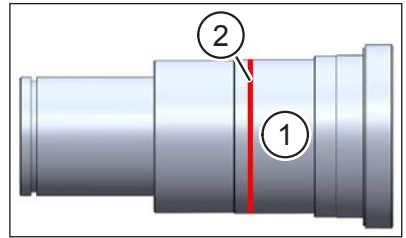
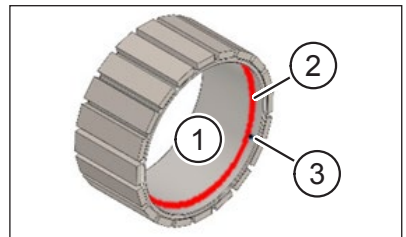

Fig. 10: Adhesive ring on the shaft
Fig. 11: Adhesive ring on the rotor
- ▶ Clean and degrease the bonding surfaces on the shaft (item 1 in Fig. 10) and rotor (item 1 in Fig. 11) following the adhesive manufacturer's instructions.
- ▶ Following the manufacturer's instructions, apply a thin ring of adhesive (item 2 in Fig. 10) to the bonding surface on the shaft (item 1 in Fig. 10).
- ▶ Following the manufacturer's instructions, apply a thin ring of adhesive (item 2 in Fig. 11) to the inner surface in the vicinity of the indexing hole (item 3 in Fig. 11) on the rotor.